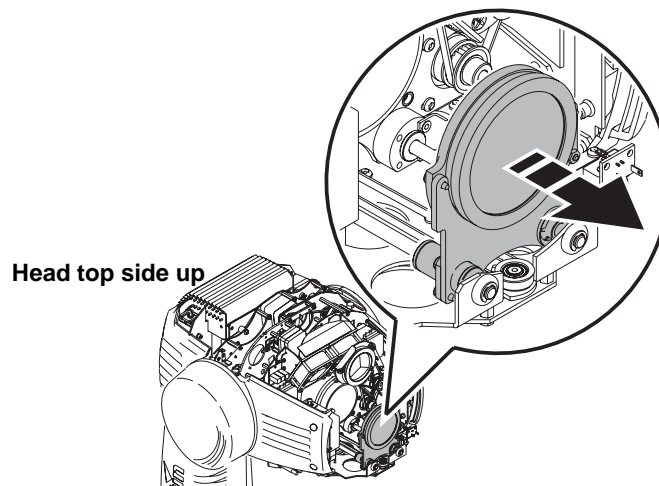

Figure 15: Moving the zoom lens forward
4. Position the head top side up so that you have access through the top. Holding the zoom lens by its base, slide it out to its limit at the front of the fixture as shown in Figure 15.